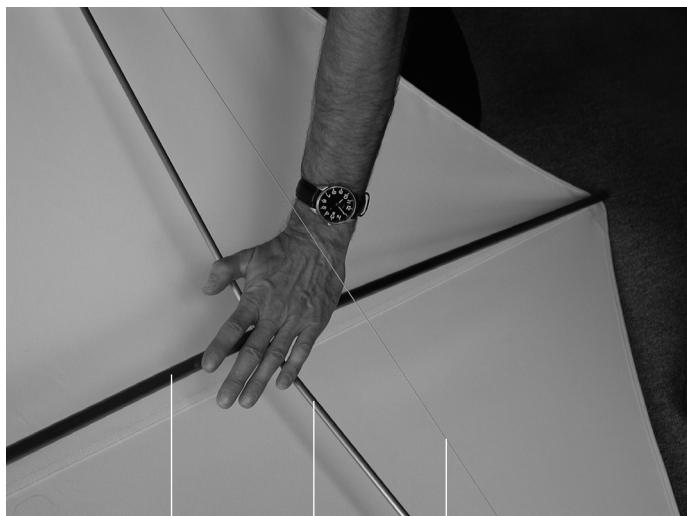

Fig. 43
Mounting steps (see Figs. 43 to 44)
- F02 Press cross-over point of the mast [01] and the cross beam [02] carefully downward (see Fig. 43).